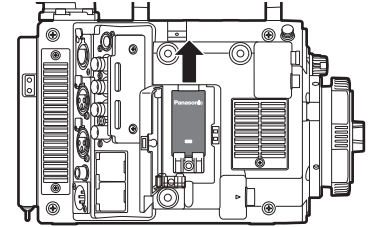

Fig. 3
- 3** Attach the wireless module securely to the <USB HOST> terminal and secure with the screw that has been removed in step 2, and close the door. (Fig. 3)